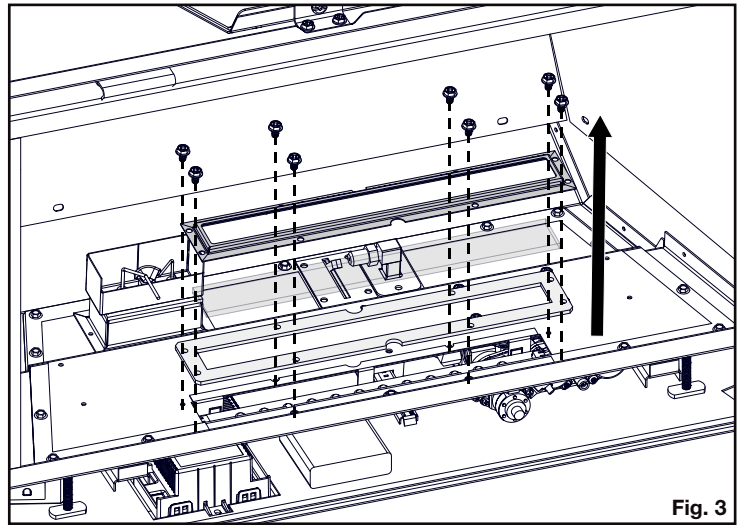

Fig. 3
- ☐ 6. To access the regulator anti tamper screws, the LED bracket will need to be removed. Remove the 8 screw securing the LED cover, glass, and gasket (**Fig. 3**).